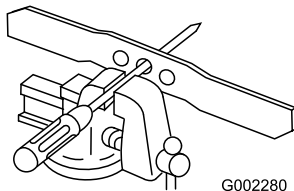

Figure 39
1. Check the balance of the blade by placing the center hole of the blade over a nail or screwdriver shank clamped horizontally in a vise (Figure 39).